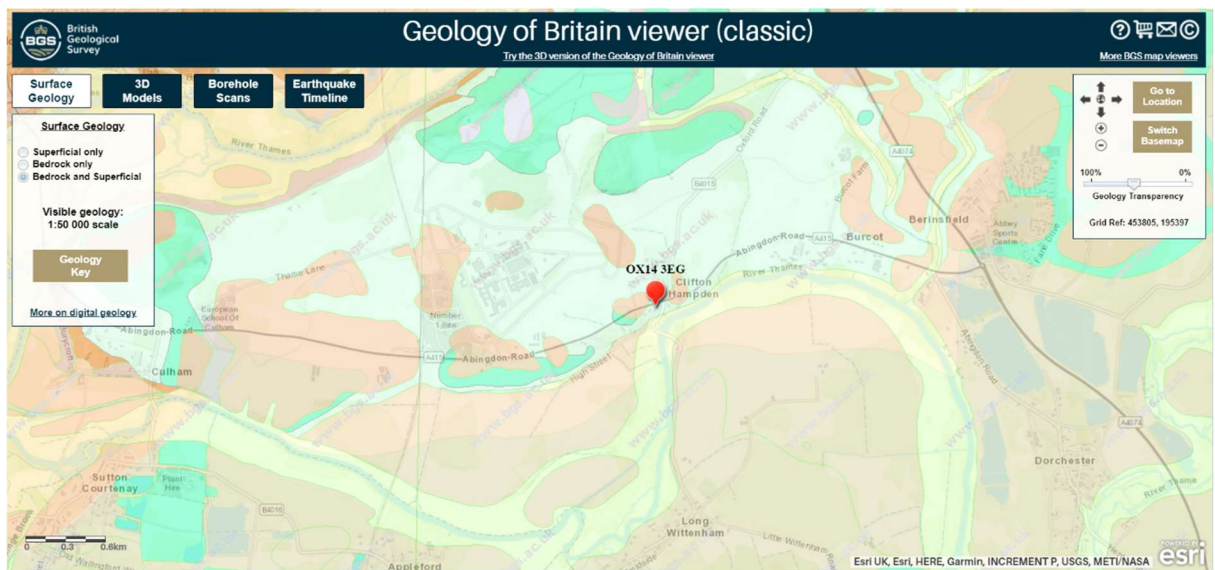

Figure 2.3: BGS Surface Geology Mapping
- 2.4.4 See Figure 2.3 for British Geological Society mapping.